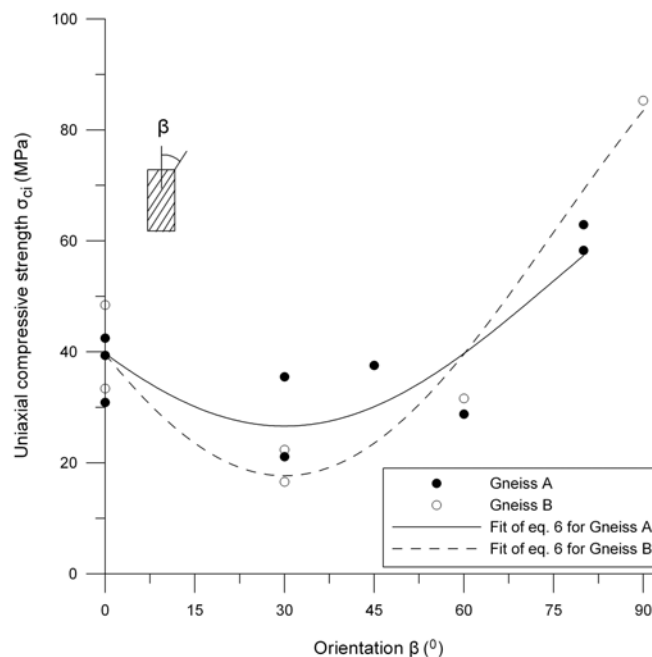

Figure 6 Strength anisotropy of gneisses in uniaxial compression.
The variation of uniaxial compressive strength, due to the presence of foliation planes for gneiss and marble, is shown in Figures 6 and 7. The uniaxial strength tests for the schist were not adequate in order to describe the influence of loading angle on uniaxial compressive strength. Equation (6) was fitted to the uniaxial strength data of gneiss and marble and the values of constants A and D were determined, as shown in Table 1.
The minimum uniaxial strength was encountered, as expected, when loading was applied at an inclination of $\beta=30^\circ$ - 45° relative to the banding planes of the gneiss samples. The uniaxial strength when loading perpendicular to the banding planes was greater than that when loading was applied parallel to them, for both gneisses (Figure 6).